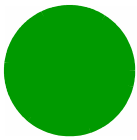

**Figure 2-14: Installing the GPS Bracket**
- 2 Attach nuts, washers and spring washers to both sides of the threaded rods and fasten to fix the rods in place on the carriage (Figure 2-14).